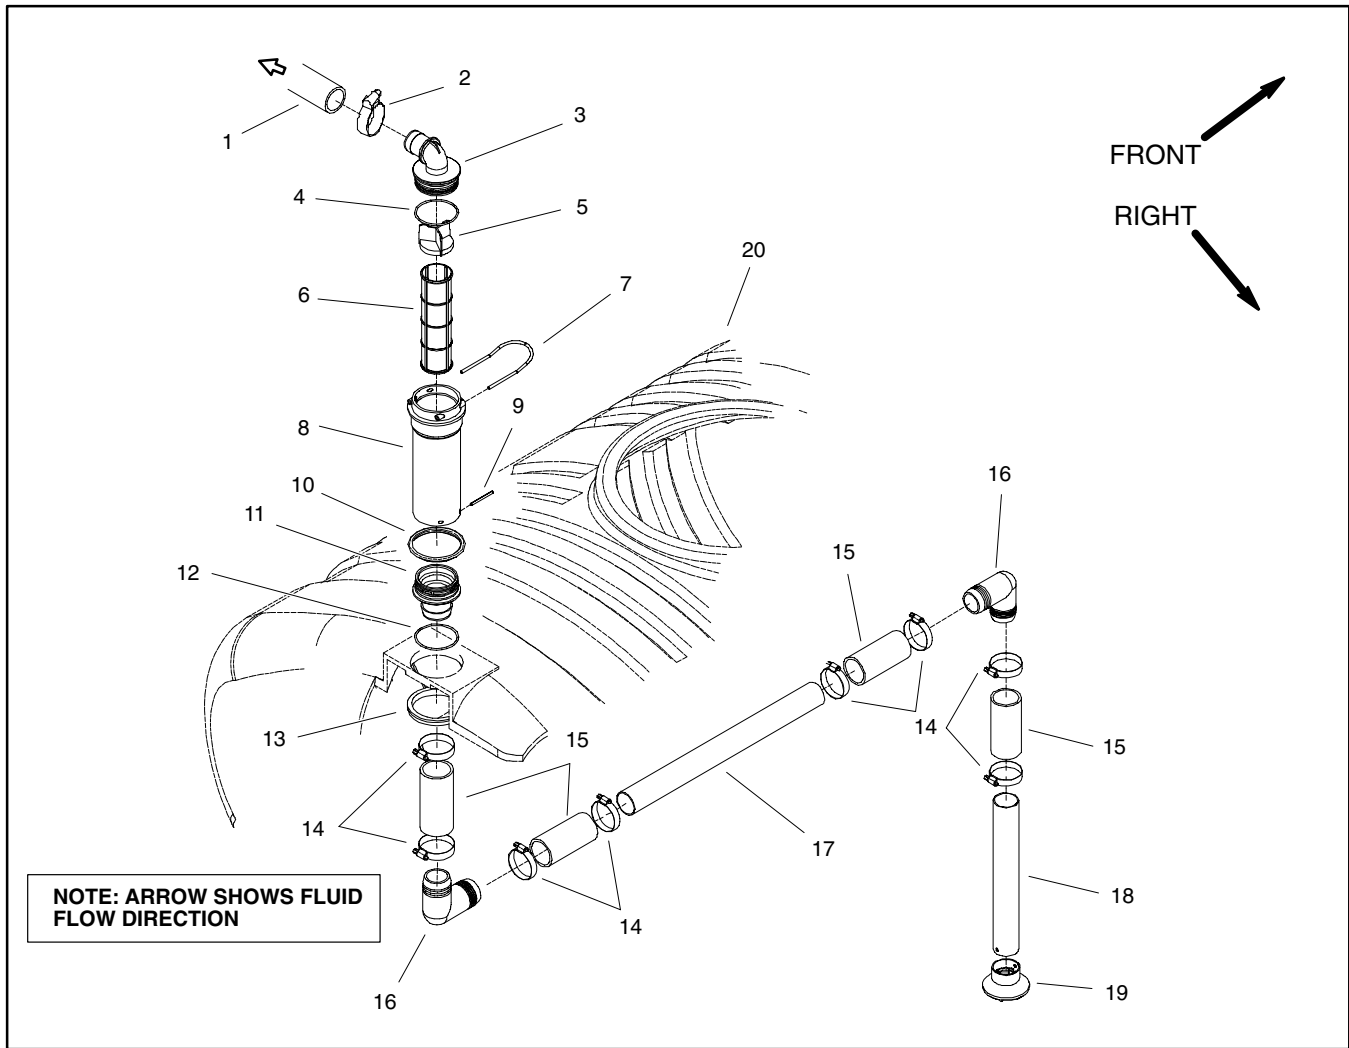

Figure 30
### Removal (Fig. 30)
### Assembly (Fig. 30)
1. Assemble and install suction tube assembly using Figure 30 as a guide. Replace all removed o-rings and gaskets.